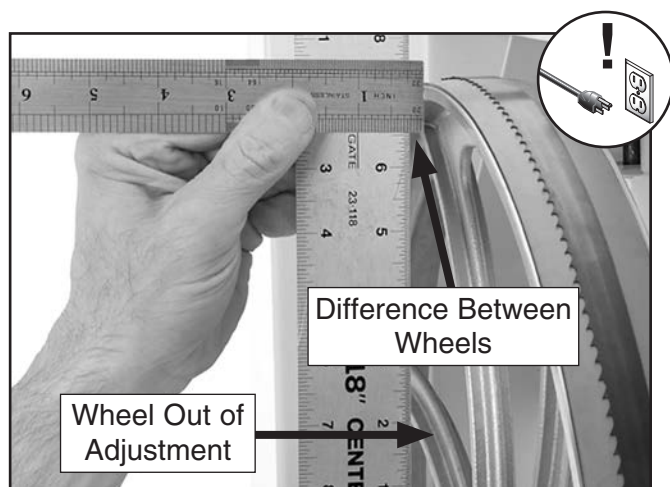

Figure 115 Determining distance needed to shim upper wheel.
3. With a straightedge touching both points of the wheel that does not need to be adjusted, measure the distance away from the wheel that is out of adjustment (see **Figure 115**).